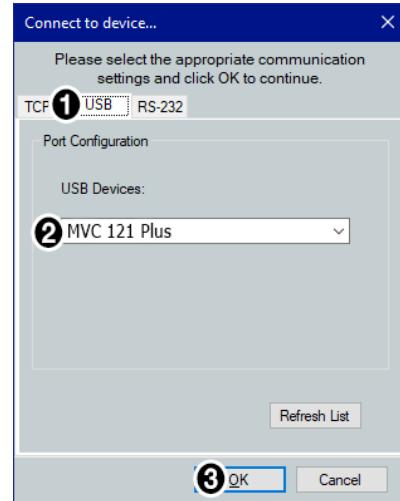

Figure 49. Connecting to device — USB
USB tab (figure 49, ①) — To connection via the front panel configuration port, proceed to step 4).
4. If USB was selected in step 2 (see figure 49):